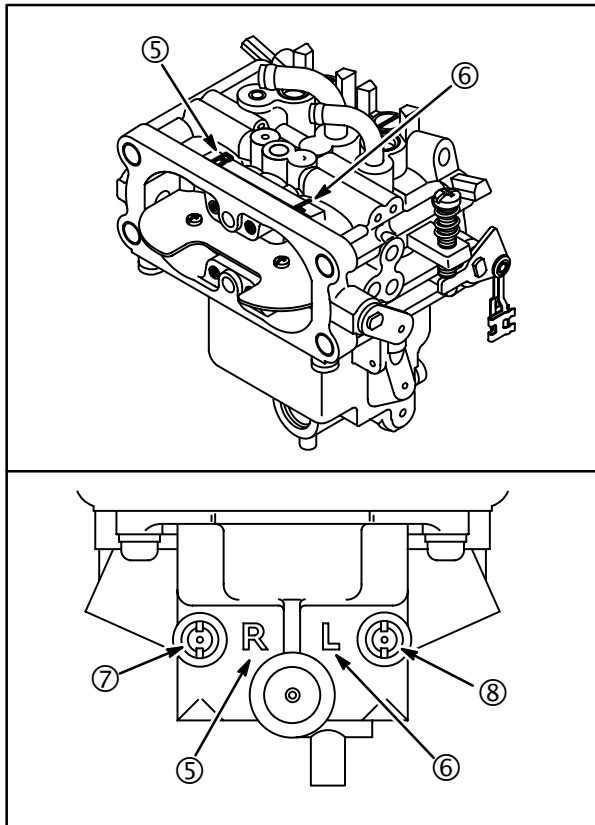

Fig. 61
3. Remove fixed main jets (7, 8), Fig. 61.
**NOTE:** The carburetor is equipped with a different size fixed main jet for each cylinder. The carburetor is marked L (6) for the #1 cylinder and R (5) for the #2 cylinder.
The carburetor is marked in the upper body near the choke plate and the lower body near the main jet plugs. See Fig. 61.